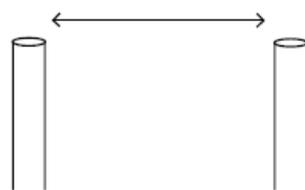

Fig 2
2. The supply pipework can be plumbed either from above or below but must finish at the suitable connections which will be approximately 150mm centres (Fig 2). Allowance should be made for some adjustment when fitting the valve.